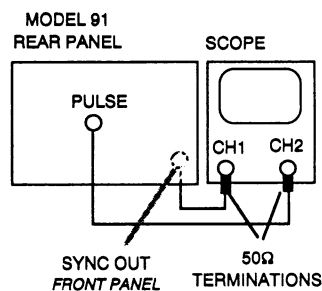

Figure 3-6. Pulse Measurements Setup
2. Connect the Model 91 and test equipment as shown in figure 3-6.
2. Connect the Model 91 and test equipment (as shown in figure 3-6).